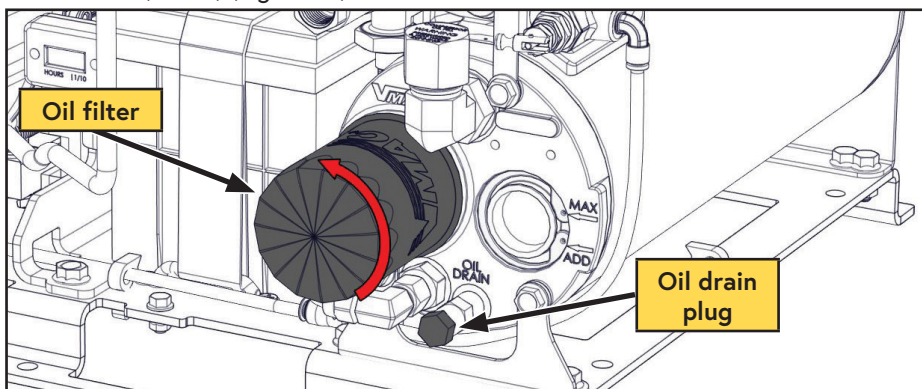

Figure 37 — Compressor oil filter
- ☐ Remove the oil drain plug and drain the oil into a container with a capacity of at least 4 L (1 USG) (Figure 37).
- ☐ Remove the oil filter (Figure 37 on page 58).